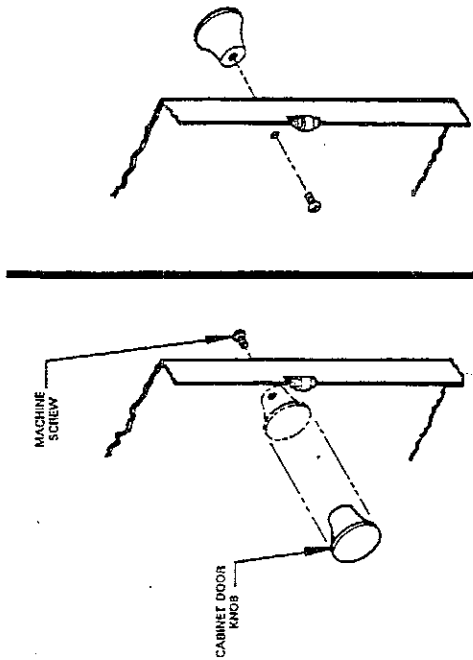

FIG. 9
1. Remove the machine screw and door knob (Fig. 9)